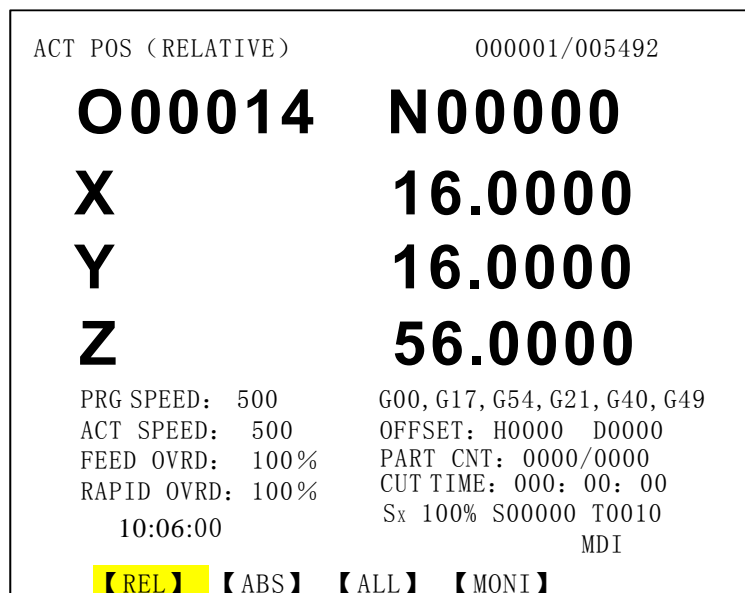

Fig. 3-1-1
1) Relative mode: It displays the coordinate of the current tool in relative coordinate system by pressing **【REL】** soft key, called “relative” in following (see Fig.3-1-1):